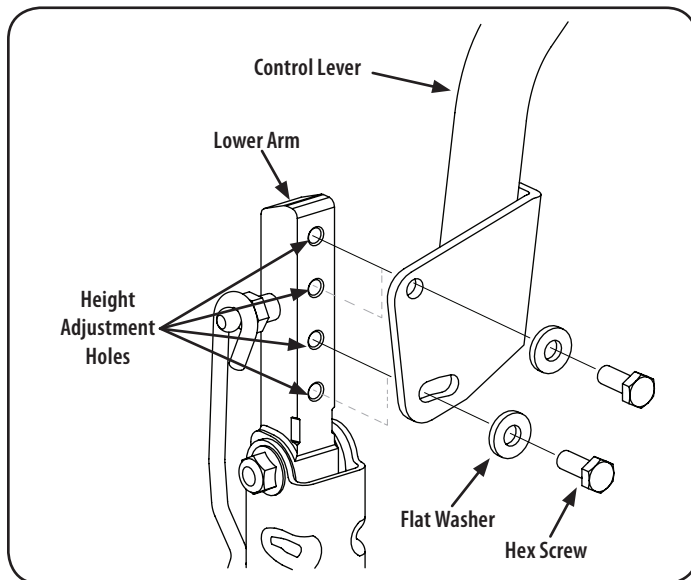

Figure 25
2. While supporting the control lever to keep it from falling, remove the hex screw and flat washer from the bottom of the control lever and lower arm. Refer to Figure 25.
1. If not already loose, loosen the hex screw and rotate the control lever either forward or rearward to the desired position. See Figure 25.